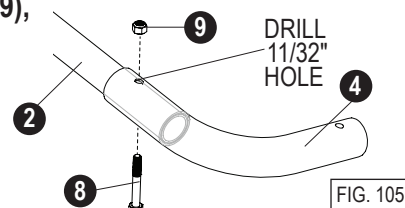

FIG. 105
- Slide the **upper arms (2)** fully into the **corners (4)**. Using a hole in each corner as a guide, match drill a 11/32-inch hole through each upper arm.
- Secure the **upper arms (2)** to the **corners (4)** with **bolts (8)** and **nuts (9)**, as shown in Figure 105.